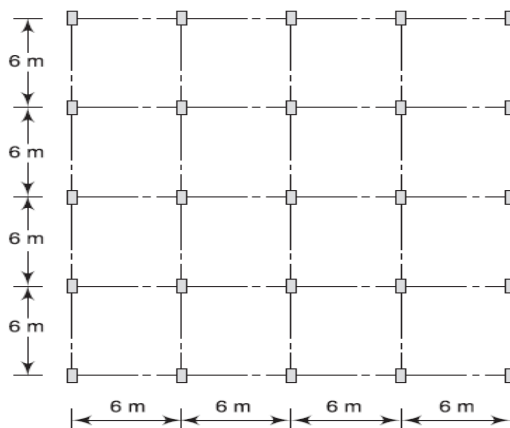

Fig 2
6. A 10-storey OMRF building has plan dimensions as shown in Fig. 2. The storey height is 3.0 m. The DL per unit area of the floor is 4kN/m^2 . The intensity of live load on each floor is 3kN/m^2 and on the roof is 1.5kN/m^2 . The soil below the foundation is hard and the building is located in Delhi. Determine the seismic forces and shears at different floor levels using static method
[see Fig. 2(b)]